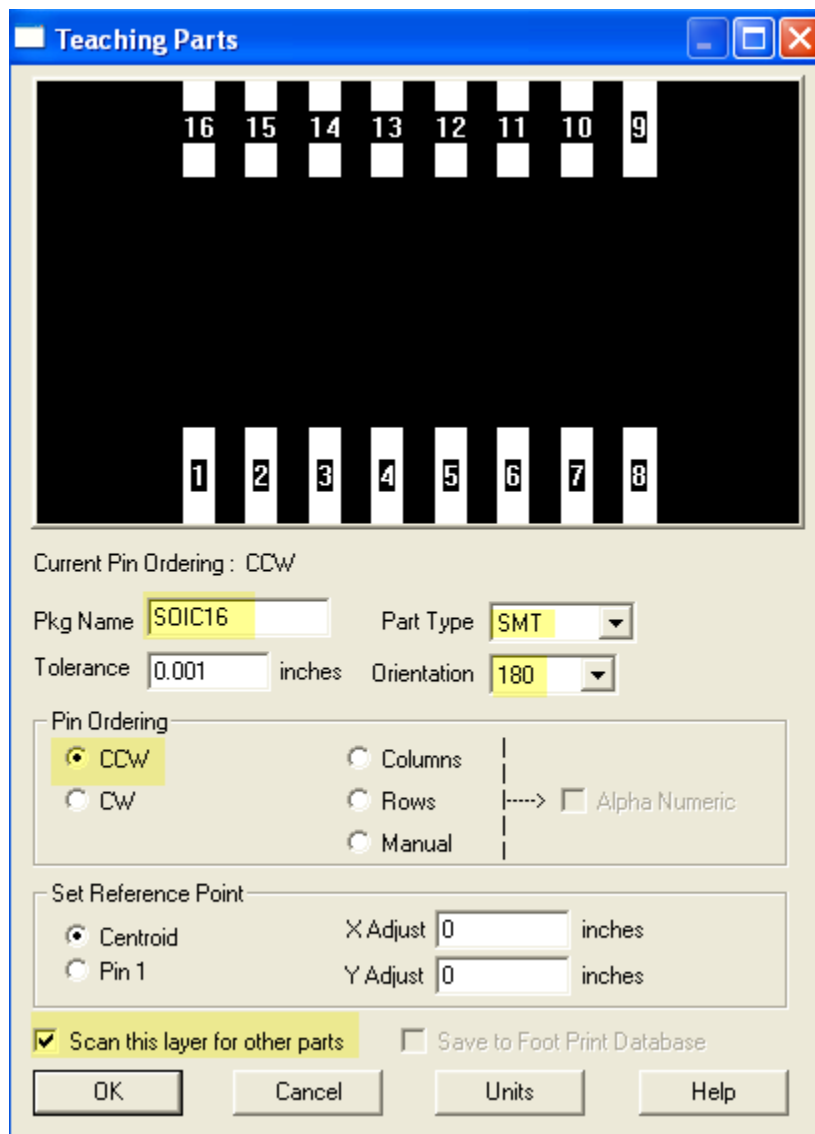

Figure 33
3. After running Teach Part, a new Parts Physical Layer is created with a Parts layer (P1.1) that contains the converted parts, and a Footprint layer (P1.2) that contains a copy of all non-converted pads – See Figure 33: